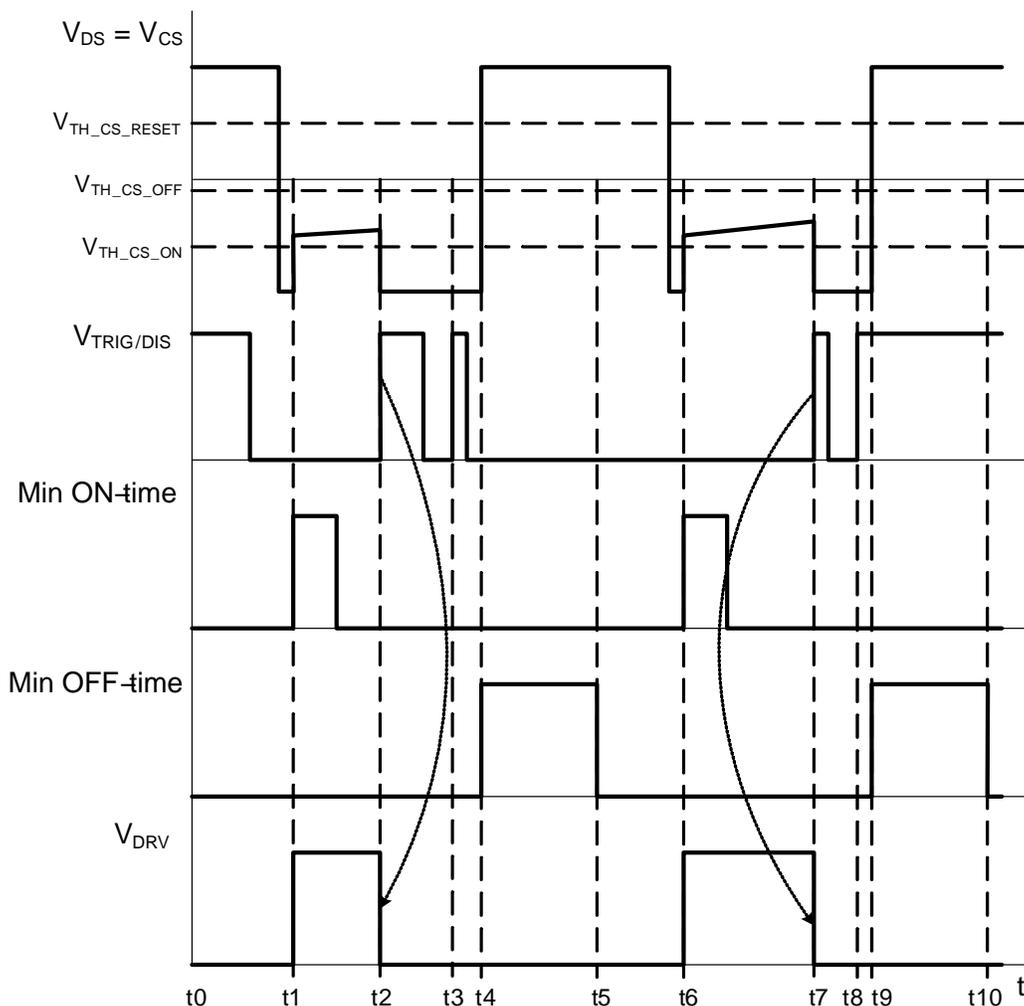

Figure 57. Trigger Input Functionality Waveforms – Two Pulses at One Cycle
Figure 57 shows IC behavior in case the trigger signal features two pulses during one cycle of the VDS (CS) signal. The trigger goes low enables the DRV just before time t_1 and DRV turns-on because the VDS voltage drops under $V_{TH_CS_ON}$ threshold voltage. The trigger signal disables driver at time t_2 . The trigger drops down to LOW level in time t_3 , but IC waits for complete minimum off-time. Minimum off-time execution is blocked until CS pin